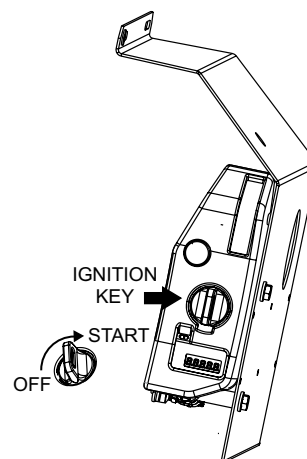

Figure 12. Ignition Key
5. Turn the ignition key (Figure 12) clockwise and listen for the engine to start. Once the engine starts release ignition key.